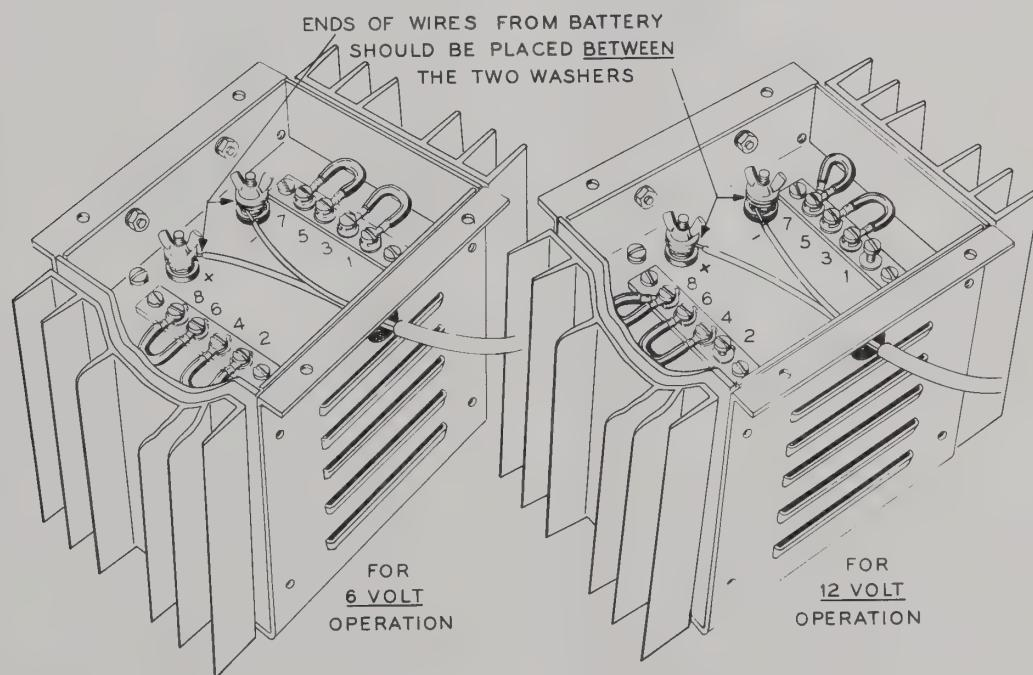

Figure 19
- (✓) Set the jumpers for 12 volt operation. See Figure 19.
() Connect the short jumpers on the underside of the MP-10 as per instructions. See Figure 19.
() Run the battery wires (not connected to the battery) through the 1/2" grommet of the MP-10 and connect them to the proper terminals on the underside of the unit. Watch the polarity. See Figure 19.